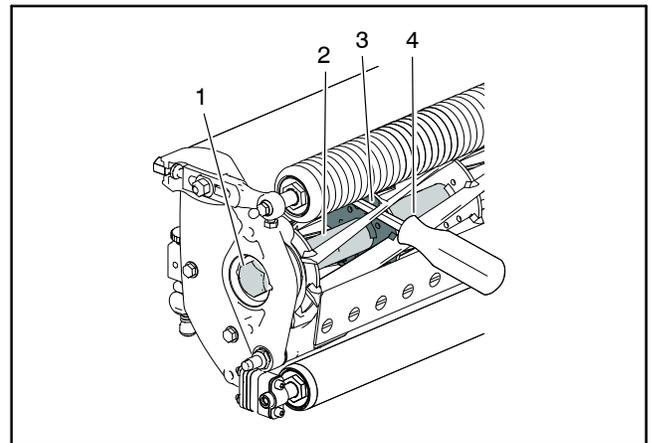

Figure 26
B. Insert a long-handled pry bar (3/8 x 12 inch with screwdriver handle recommended) through the bottom of the cutting unit. The pry bar should pass between the top of the reel shaft and the backs of the reel blades so that the reel will not move (Fig. 26).